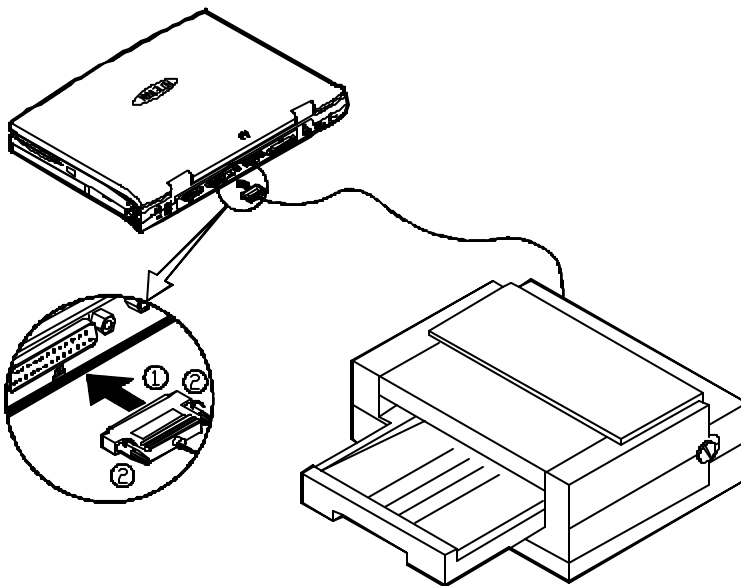

Figure 2-22
2. Connect the cable to the parallel port on the rear of the Notebook Computer (Step 1 in Figure 2-22).
3. Tighten the screws that fasten the cable to the parallel port (Step 2 in Figure 2-22).